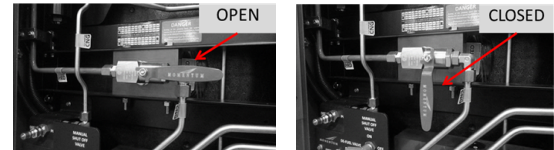

FIGURE 4 – CYLINDER MANUAL SHUT-OFF VALVE
3. Turning off Ball Valve style valve, one should turn the valve handle clockwise until handle stops turning. (Figure 4)